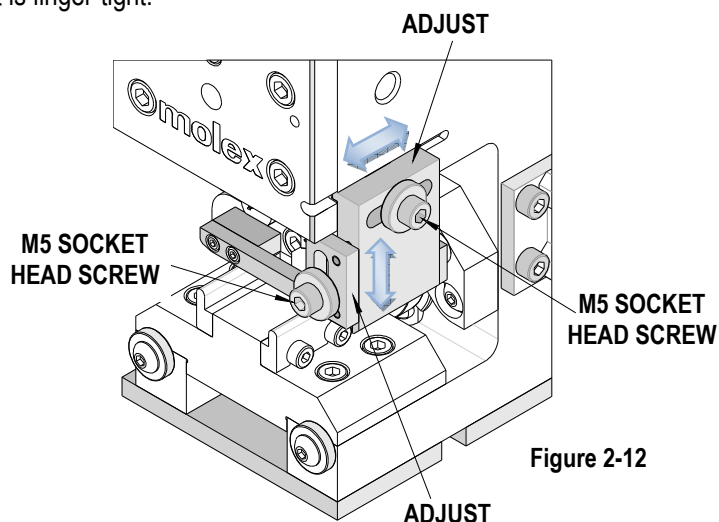

Figure 2-12
- To adjust the stripper in and out, use a 4mm hex wrench to loosen the M5 socket head screw on the side of the stripper. Move the stripper toward the punches, but not too close or it could interfere with the ram stroke. See Figure 2-12. Tighten the M5 socket head screw when adjustment is complete.